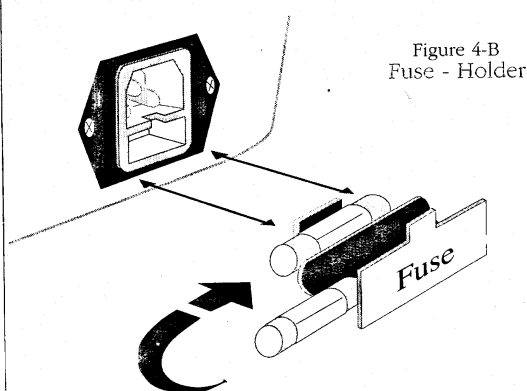

Figure 4-B
2. Remove the fuse holder from AC IN connector using the supplied fuse box opener as shown in figure 4-A. Replace the broken fuse with the spare provided (Figure 4-B).